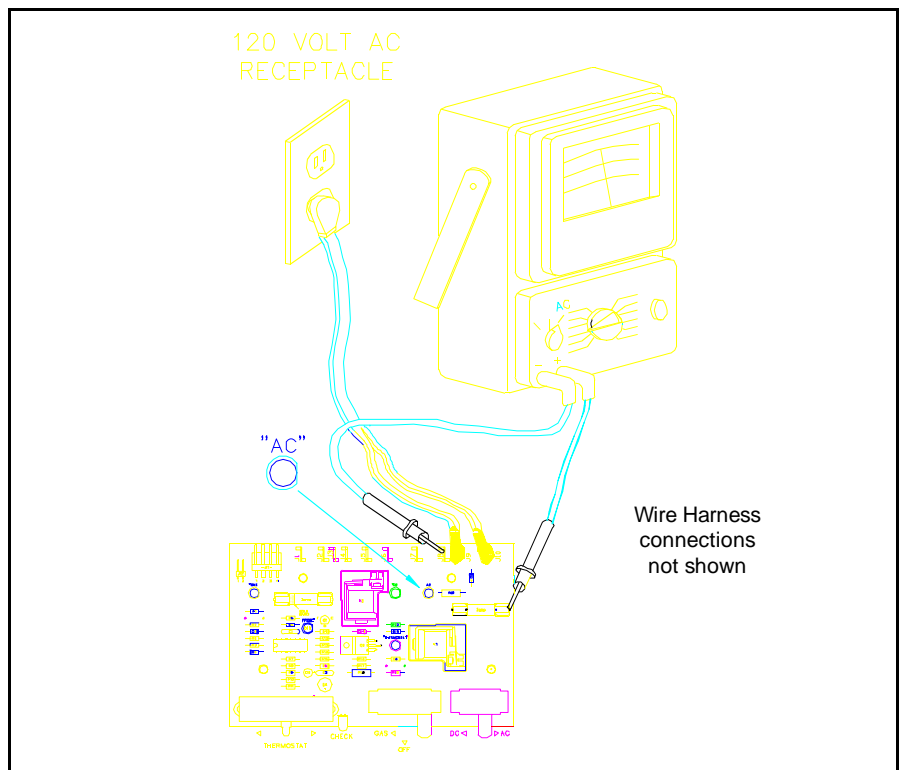

Figure 4.47 120 Volt Check at Input of 5 Amp Fuse
11. The "AC" L.E.D., referenced in Figure 4.47, must be on. If not: